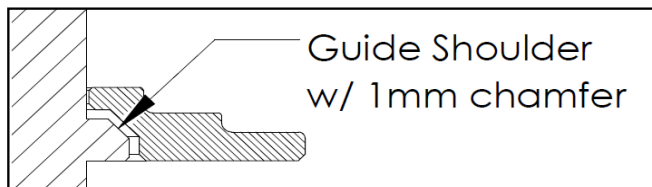

Figure 2) newer style KPMI guide compatibility
Note 3: VALVE GUIDE COMPATIBILITY. This system is designed to be run with KPMI's newer style valve guides, which are shortened for 0.675" valve lift and can be identified with a large 1mm wide chamfer on the top of the shoulder (See Figure 2). The system is NOT compatible with older style KPMI guides. The system can also be run with the OEM guide but with reduced lift capacity due to higher guide heights. The OEM snap ring MUST be removed prior to installation.
1. In Figure 2 the installed height is measured from where the Outer Spring contacts the Retainer and the Basewasher. This measurement is taken when the Valve, Basewasher, Retainer, and Keepers are assembled in the cylinder head.